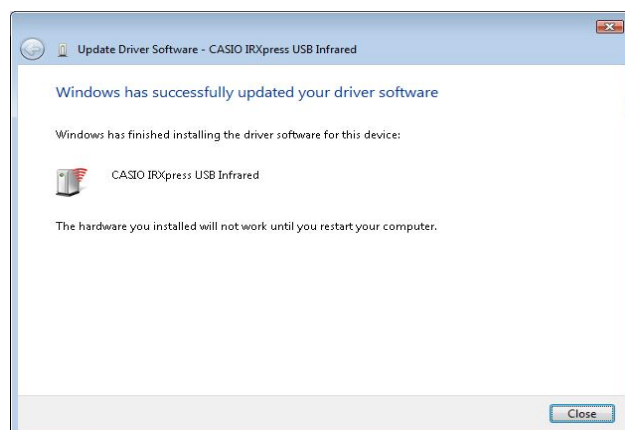

Figure 5.17
5. Click **C**lose button in Figure 5.17.